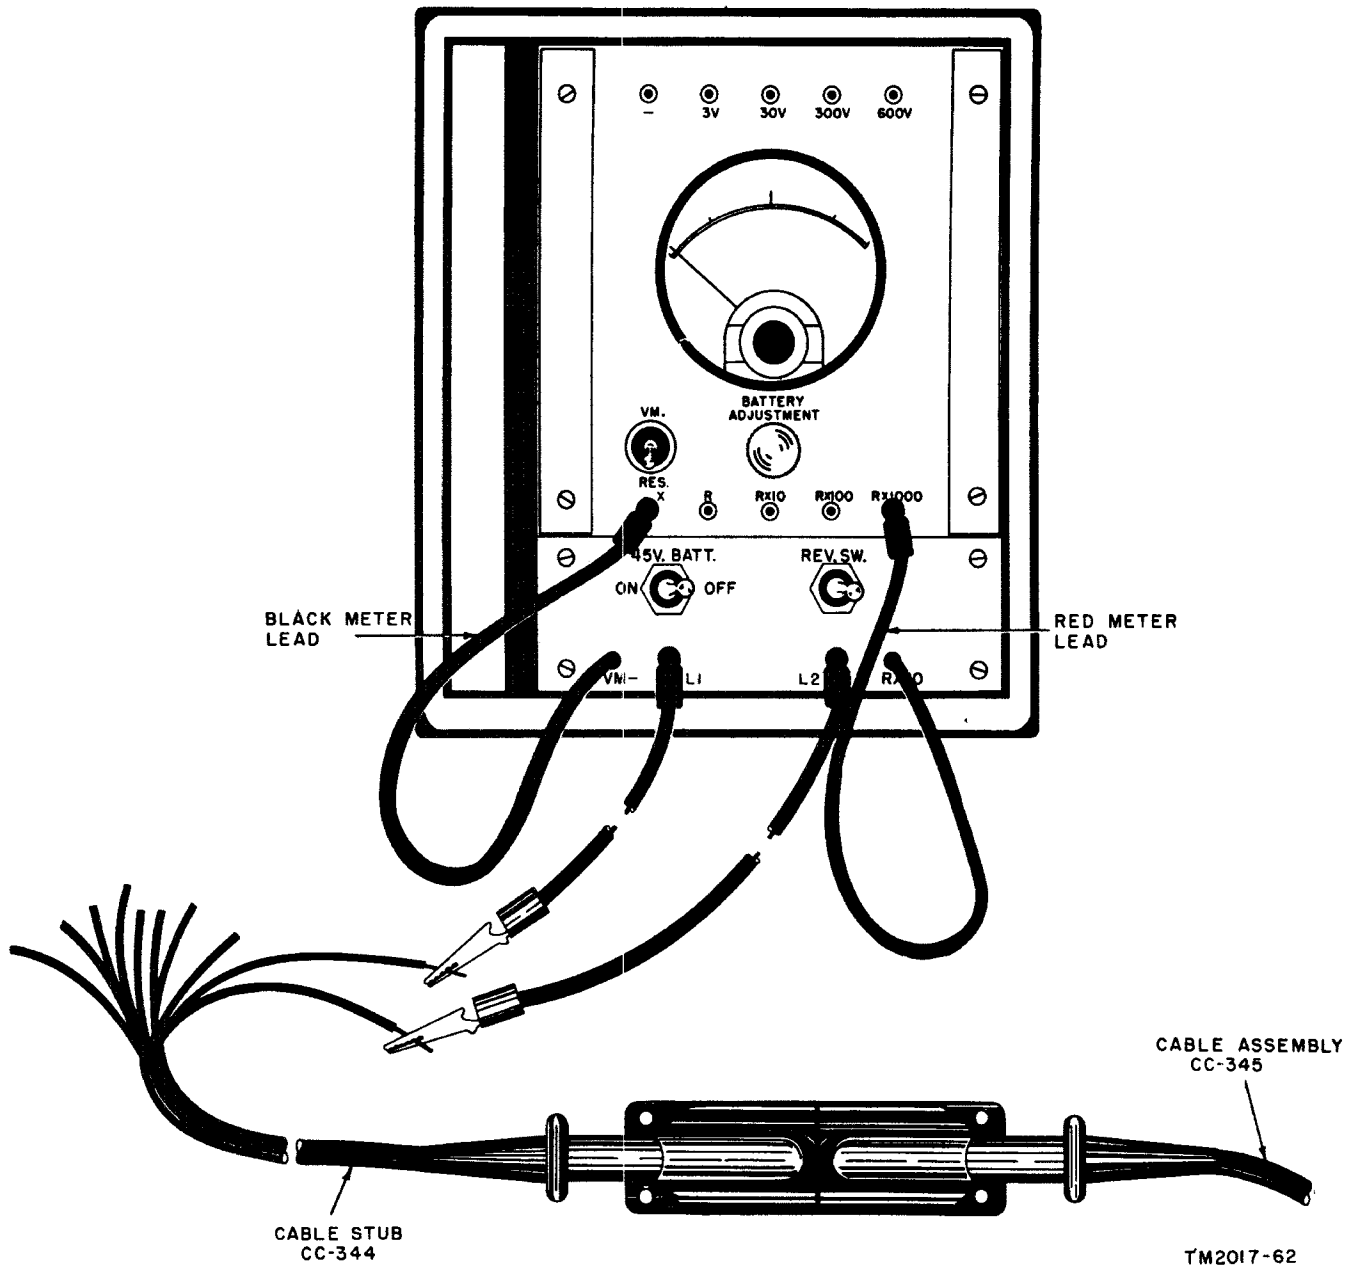

Figure 22. Proper method of connecting Test Set TS-26(\*)/TSM to Cable Assembly CC-345, using Cable Stub CC-344.
- (2) Use Cable Stub CC-344 to connect the test set to Cable Assembly CC-345 (fig. 22).